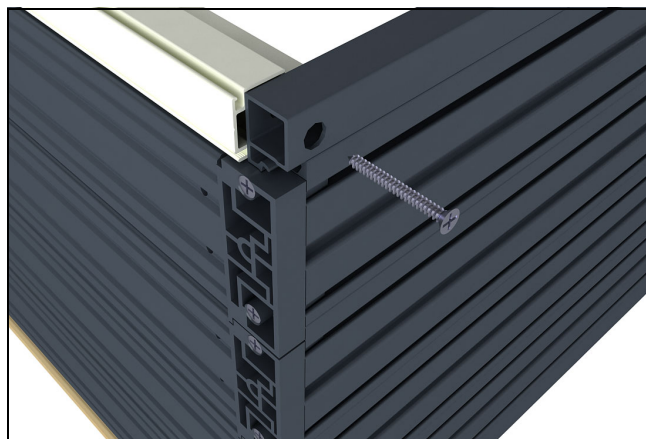

Figure 100
5. Fasten sill liner to frame cladding using #8 x 1 1/2" flat head screw. *Note: Ensure hole is line up with the screw boss in frame cladding.* See figure 100.